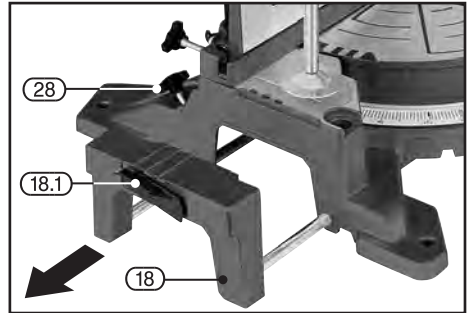

FIG.6
8.6 ATTACHING THE EXTENSION WINGS – FIGS.6 – 7
Stock No.79889 (Fig.6):